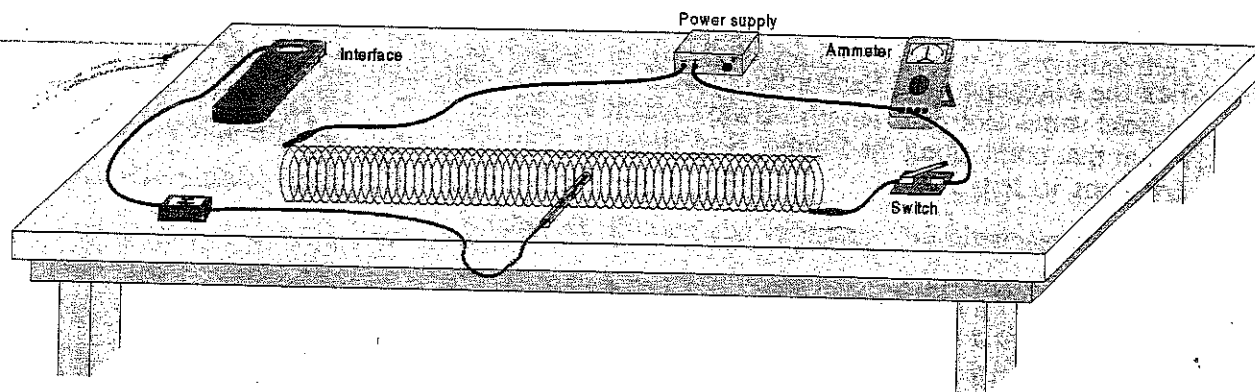

Figure 1
3. Set up the circuit and equipment as shown in Figure 1. Wires with clips on the end should be used to connect to the Slinky.
For the second part of the experiment, you will determine the relationship between the magnetic field in the center of a coil and the number of turns of wire per meter of the solenoid. You will keep the current constant. Leave the Slinky set up as shown in Figure 1. The sensor will be oriented as it was before, so that it measures the field down the middle of the solenoid. You will be changing the length of the Slinky from 0.5 to 2.0 m to change the number of turns per meter.